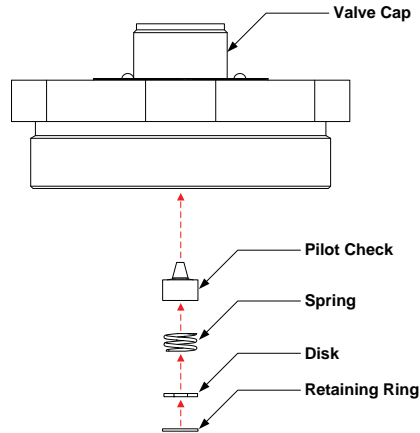

Figure 6-4. 3-Inch Valve Pilot Check Assembly
**Note:** Refer to Figure 6-4 for items.